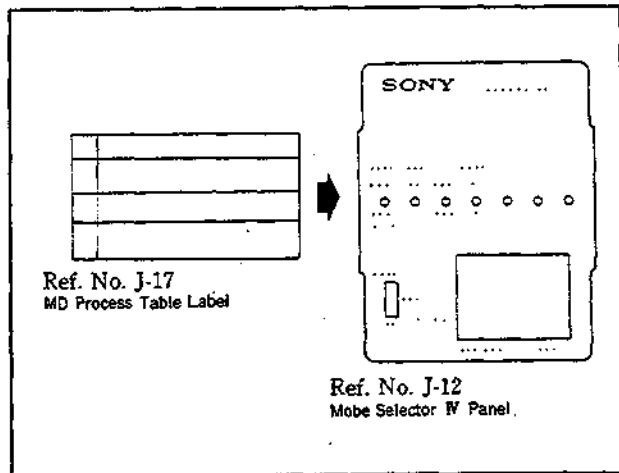

Fig. 4
- U, U', FL, O, O' and A mechanisms have different mode indications respectively. Select your desired type. (Fig.4)